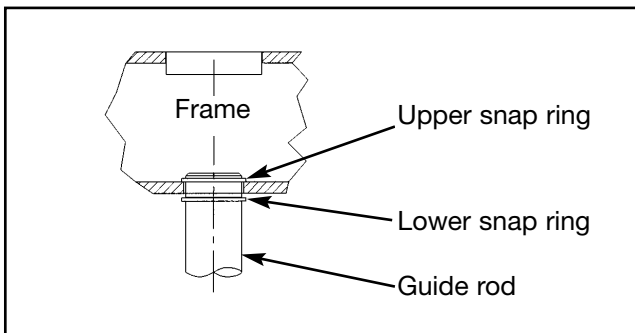

Figure 4
2. Install optional station weight stack (see steps 2A - 2Q and Figure 4).
- A. Using an external snap ring pliers, slide the lower snap ring down about two inches from the top part of the guide rod (this will provide access to the upper ring). See Figure 4.